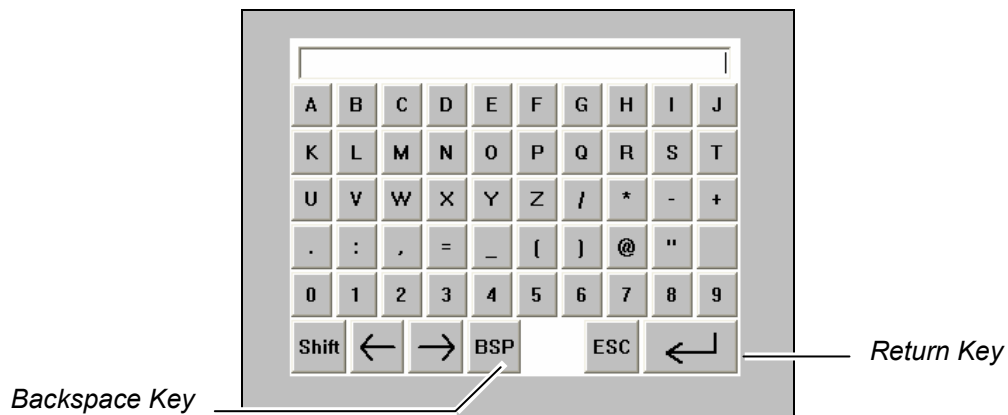

Figure 6-19 Virtual Keyboard
3. From the Virtual Keyboard (Figure 6-19), enter the necessary changes. Use the **Backspace Key** to make any corrections.